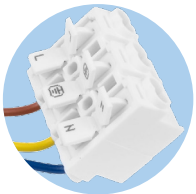

Fig. 7. Circulation pump connection block
3. Connect the circulation pump to the proper controller connection block (Fig. 7).